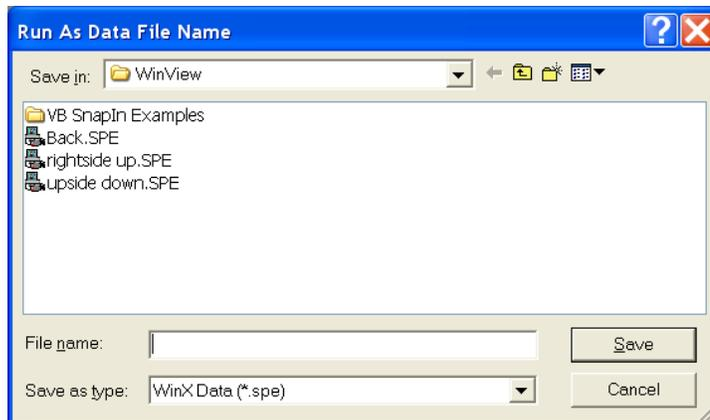

Figure 26. File Browse dialog
- Click on the button to the right of the **Name** field. This will open a browse box. Select the directory where you want the stored file to go. In Figure 26, the file name *testfile* will be used and the file will be stored in a directory named Data. *If the file name does not automatically appear in the browse box, type it in.* The file type should be WinX Data (*.spe).